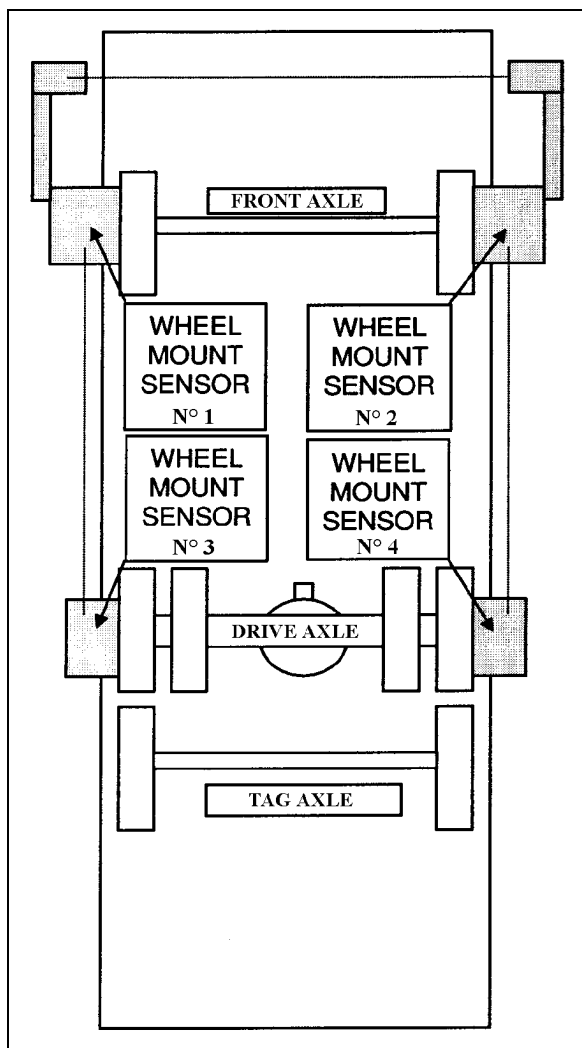

FIGURE 7: FRONT & DRIVE AXLE ALIGNMENT 11025
3. Install wheel mount sensors on front and drive axles (fig. 7). Adjust front axle according to appropriate specifications chart below.
See reference numbers on wheel mount sensors (fig. 7).
- With the system installed as for front axle alignment (fig.7), adjust drive axle according to specifications' chart below.